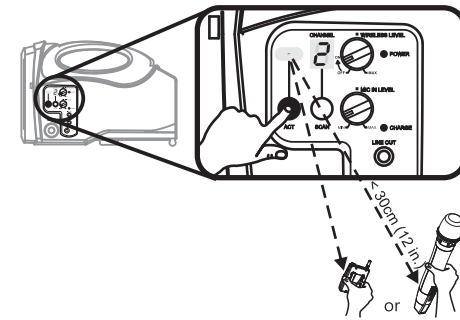

Fig. 4
## 3. Automatic Transmitter Channel Sync, Fig. 4:
- (A) Turn on the transmitter.
- (B) Press the ACT sync button on the receiver. The Channel indicator will blink indicating that ACT sync mode is active.
- (C) Align the sync windows of both transmitter and receiver at a distance of <30 cm (12-inch) and hold until Channel indicator stops blinking, See Fig. 4.
- (D) Sync is done successfully when Channel indicator stops blinking, the system is ready for use.
- (E) If ACT sync fails, repeat the sync procedure, carefully maintaining alignment between windows of both transmitter and receiver.